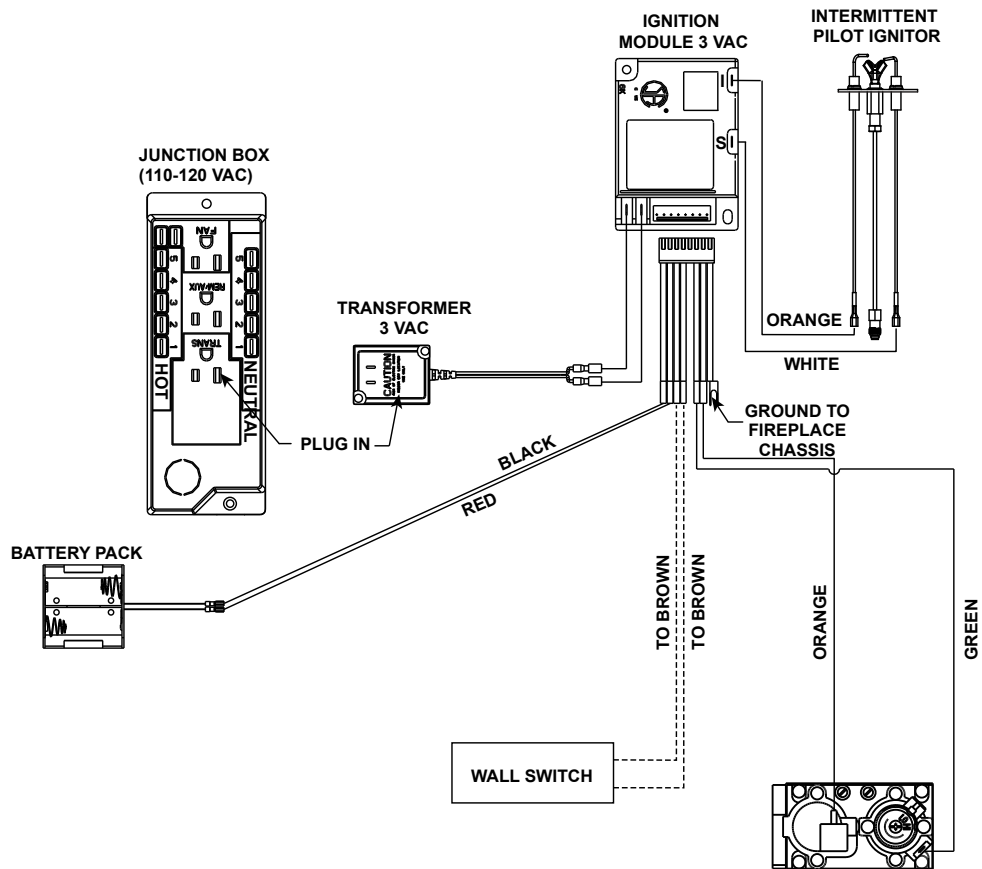

Figure 8.2 Intellifire Pilot Ignition (IPI) Wiring Diagram
- Refer to Figure 8.2, Intellifire Pilot Ignition (IPI) Wiring Diagram.